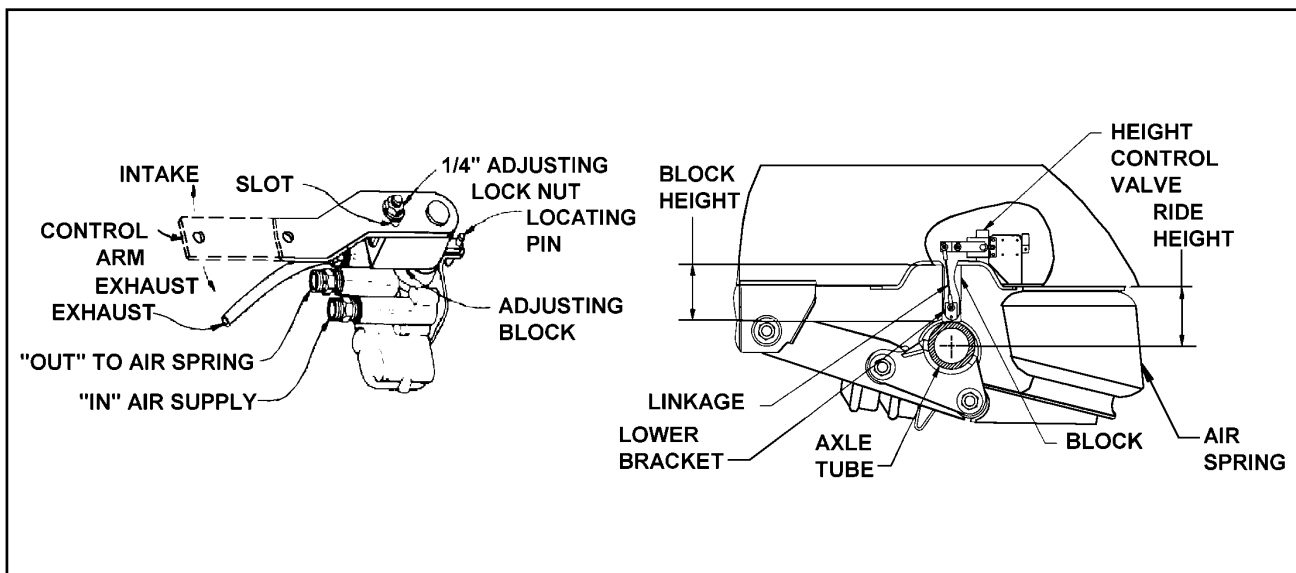

Figure 4-6 Air Ride Height Adjustment
### 4-6.3 Tandem Axle Air Ride Height Adjustment. (See Figure 4-6 for parts identification).
b. Disconnect linkage at the control arm and raise control arm to the "up" position, raising the trailer until a block can be placed between axle tube and undercarriage frame (See Figure 4-6).
- f. Loosen the 1/4" adjusting lock nut located on the adjusting block, allowing the control arm to move approximately 1 inch. Move the adjusting block until holes align, then insert locating pin. (See Figure 4-6).